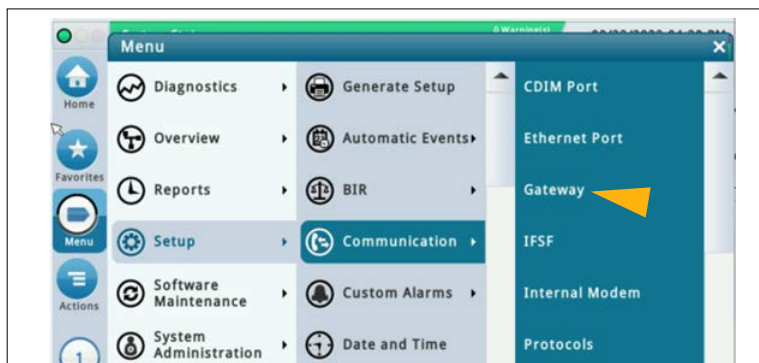

Figure 14. Accessing Gateway Setup Screen
1. Select Menu>Setup>Communication>Gateway (see Figure 14).
1. Select Menu > Setup > Communication > Gateway within the ATG (see Figure 14).